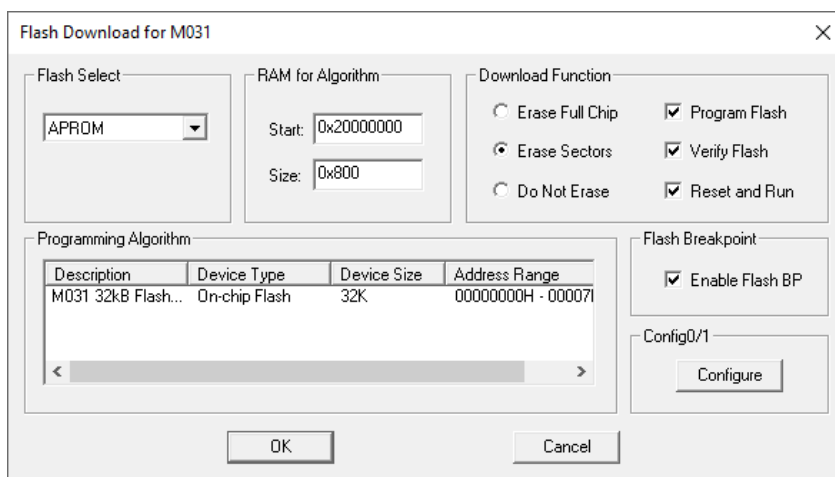

Figure 4-13 Nu-Link Adapter Programming Settings
Step 7: Click the **Settings** button to open the *Flash Download* form, as shown in Figure 4-13 where the user can specify the options before or after programming with the Nu-Link Adapter.